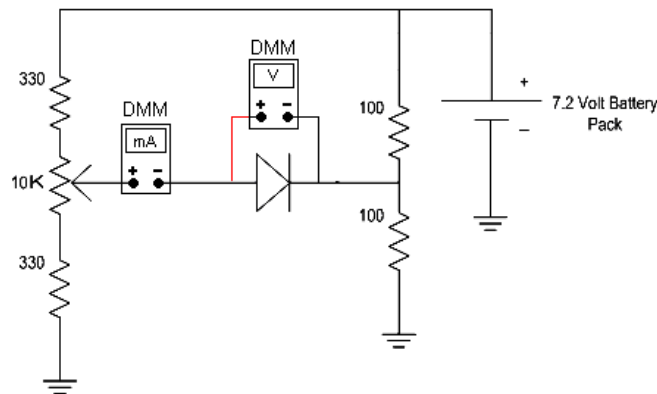

Figure 4.1: Schematic for testing the I-V characteristic of a diode
1. Build the circuit, as shown in Figure 4.1. The  $10K\Omega$  resistor (with an arrow pointing towards it), is a potentiometer (commonly called a "pot"). Turning the potentiometer shaft will adjust the voltage across the diode. Use the blue, square, 10K pots in your circuit, and adjust them with a screwdriver.